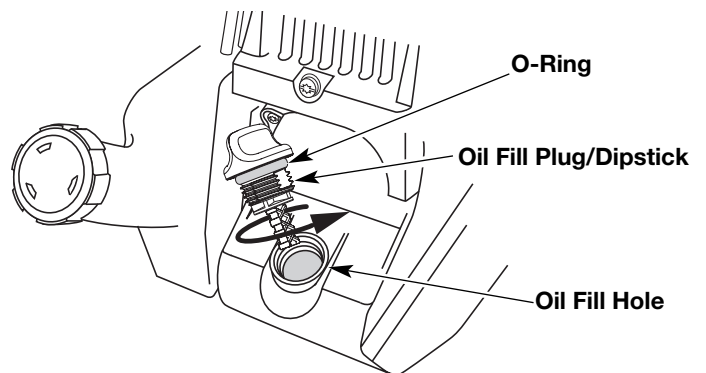

Fig. 7
3. Remove the oil plug / dipstick from the crankcase (Fig. 7).